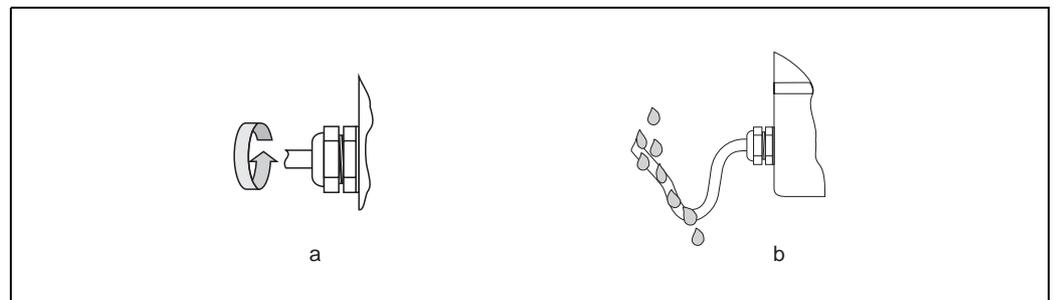

Fig. 23: Installation instructions, cable entries
- The cable entries must be firmly tighten (point **a** → Fig. 23).
- The cable must loop down in front of the cable entry ("water trap") (point **b** → Fig. 23). This arrangement prevents moisture penetrating the entry. The cable entries may not be point up.